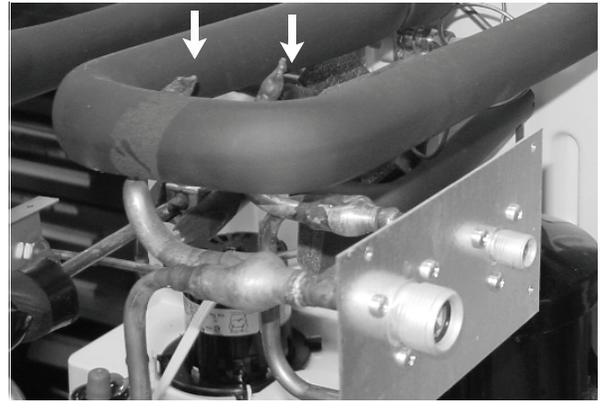

Figure 37.
41. Pinch off and braze shut the charging ports behind the Aeroquip fittings (FIGURE 37).